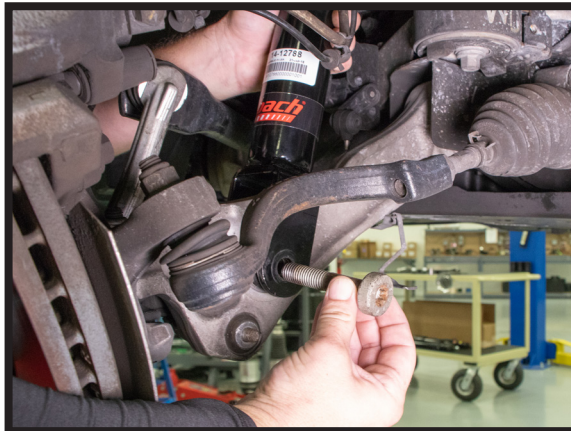

FIGURE 7
2. INSTALL BOTTOM MOUNTING BOLT. (FIGURE 7)